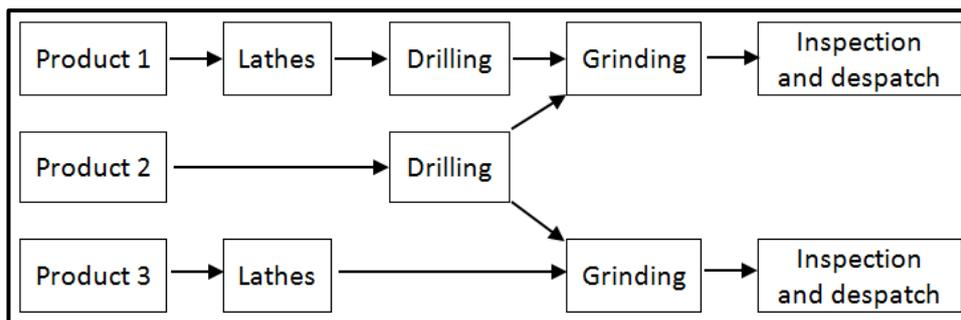

FIGURE 2.3.1
2.3 Identify the workshop layouts shown in FIGURES 2.3.1 and 2.3.2 below.